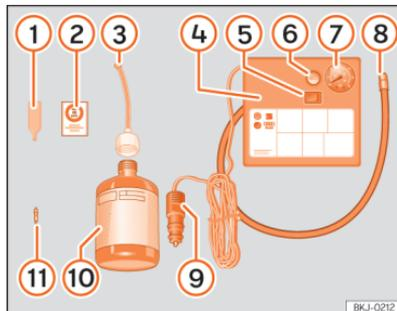

Fig. 201 Standard display: contents of the anti-puncture kit.
The anti-puncture kit is located underneath the floor covering in the luggage compartment. Includes the following components »» Fig. 201:
- Unscrew the tyre valve cap and insert. Use the device >>> Fig. 201 ① to remove the valve cap. Place it on a clean surface.
- Shake the tyre sealant bottle vigorously >>> Fig. 201 ⑩.
- Screw the tyre inflation hose >>> Fig. 201 ③ into the tyre sealant bottle. The bottle's seal will break automatically.
- Remove the filler cap >>> Fig. 201 ③ and screw the open end of the tube into the tyre valve.
- Replace the howitzer with the device >>> Fig. 201 ① onto the tyre valve.
- Screw the tyre inflation tube of the compressor >>> Fig. 201 ⑧ on the tyre valve.
- Check that the air evacuation screw is closed >>> Fig. 201 ⑥.
- Attach the connector >>> Fig. 201 ⑨ to the vehicle's 12 volt power outlet >>> page 179.
- Switch on the air compressor with ON/OFF switch >>> Fig. 201 ⑤.
- Attach the sticker >>> Fig. 201 ② to the instrument panel display, within the driver's field of vision.
Screw in the inflator tube >>> Fig. 201  again and check the pressure on the gauge .